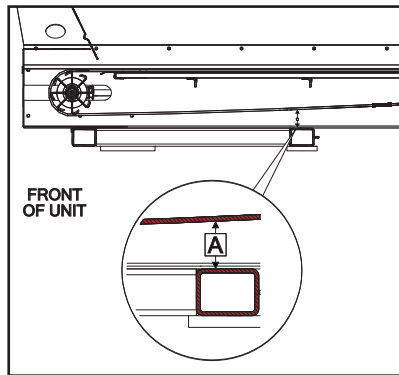

Figure 2
2. Figure 2 - With the conveyor shut off, measure vertical distance from bottom of sill to conveyor belt in front of second cross tube from front. Measurement “A” is to be 3” (8cm) on each side.
3. Adjust idler screws (A) as necessary to obtain Measurement “A”.